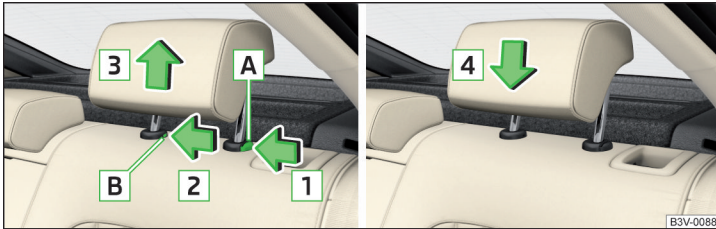

Fig. 97 Removing/inserting the rear headrest
- ▶ Hold the locking button [A] in the direction of arrow [1], at the same time using a flat screwdriver with a max. width of 5 mm to press the locking button in the opening [B] in the direction of arrow [2] and pull out the rest in the direction of arrow [3] ▶ Fig. 97.